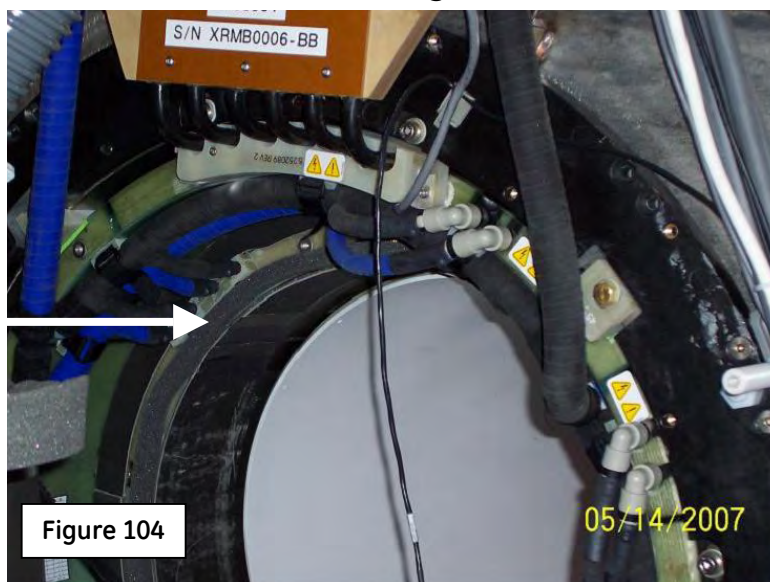

Figure 104
- E. Apply air seal (part number 5313540, part of XRMB FRU) along the ID on the XRMB endplate (Service-end ONLY). **(Fig 104)** Refer to Section 11.